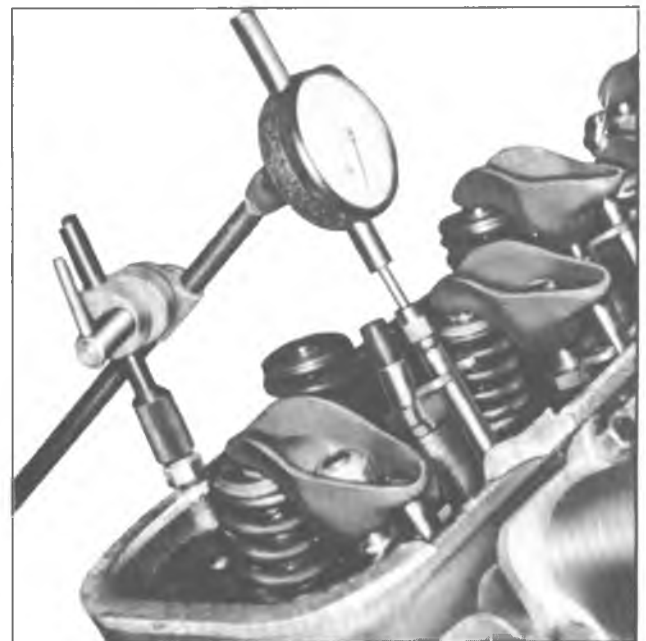

Fig. 26V—Measuring Camshaft Lobe Lift
2. Position indicator with ball socket adapter (Tool J-8520) on push rod (fig. 26V).